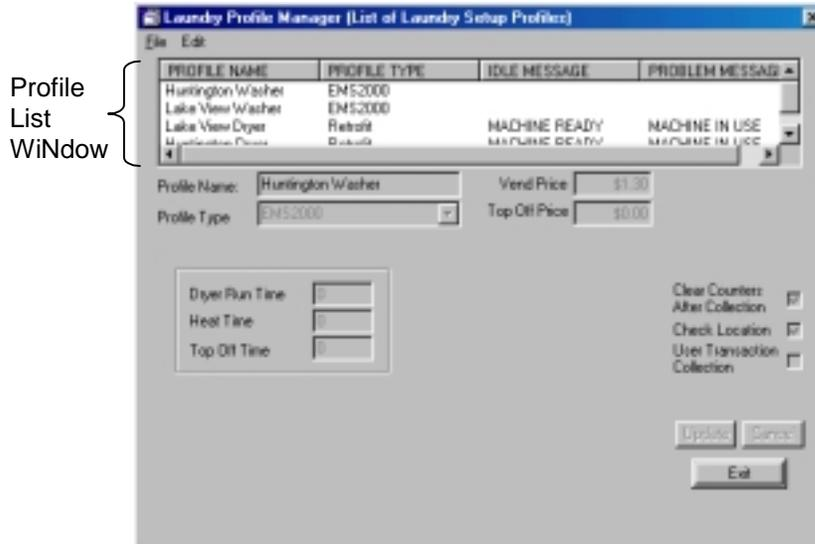

Figure 3.15 Completing the Laundry Profiles
- When completed, check to verify that the Laundry Profile List Window includes all four laundry profiles created (Figure 3.15).